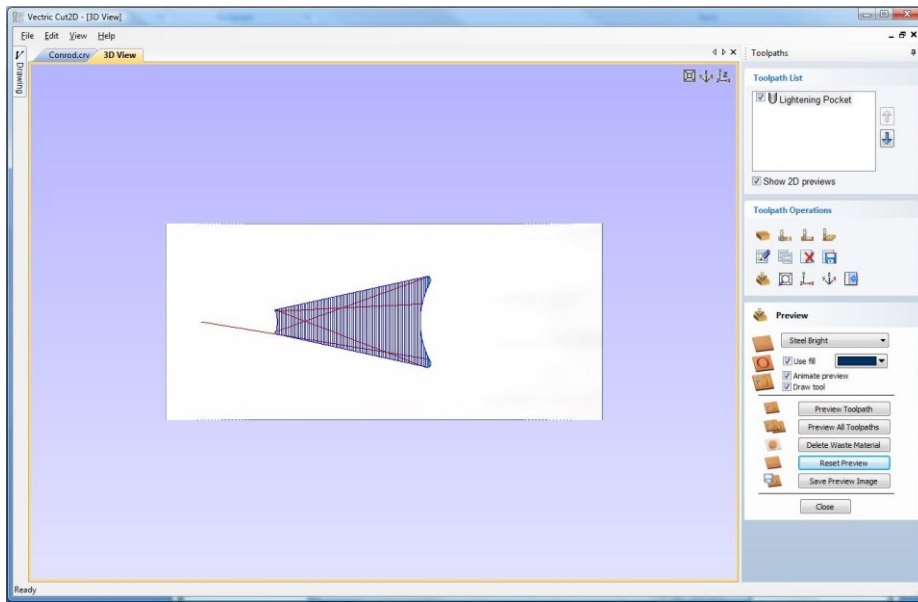

Figure 11. 3D View showing Toolpath & Material
- Click the **Calculate** button and the resulting toolpath will automatically be drawn in the **3D view** and the **Preview job** form opened, as shown below in Figure 11.